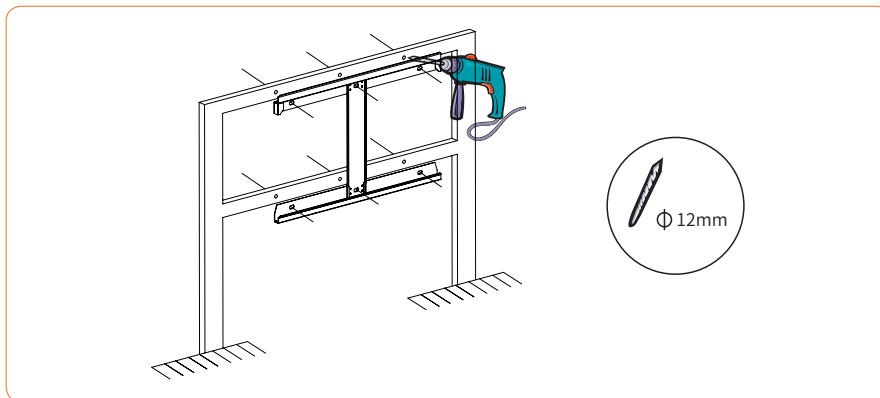

Figure 4-5 Mark the hole position
- ① Use the inverter back bracket as the template to mark the position of 6 holes on installation bracket.
- ② Use an electrical drill with 12mm diameter bit to drill 6 holes on the installation bracket. See Figure 4-5 for details: